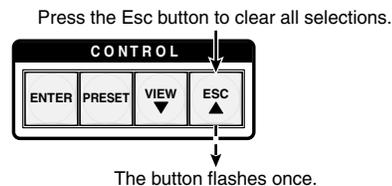

Figure 3-57 — Clear all selections
- Press and release the Esc button (figure 3-57).